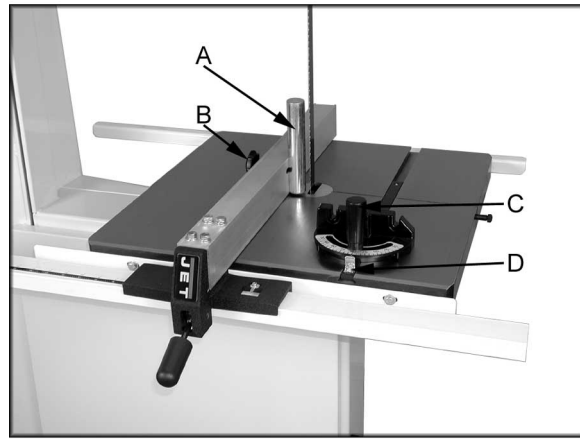

Figure 13
For resawing attach the post (A, Figure 13) to fence with the lock knob (B, Figure 13). There is a slotted hole in the fence that will accommodate the resaw kit. Position the post so that it is centered with the front edge of the blade. The resaw guide will give you a taller, single point contact surface during resawing.
3. If the miter gauge is not square to the blade loosen the lock knob (C, Figure 13) and adjust to the proper setting. Tighten the lock knob.
4. If the pointer is not at 90 degrees, loosen the screw (D, Figure 13) holding the pointer and move the pointer to 90 degrees.